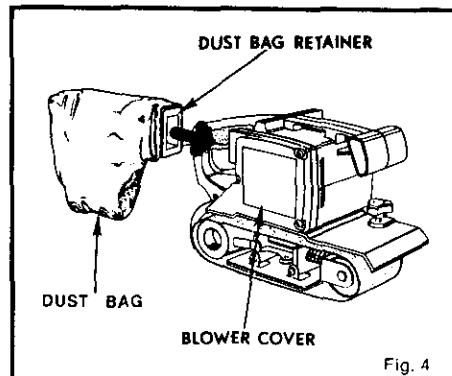

Fig. 4
See Figure 4.
2. Slide dust bag retainer in the direction of the arrow as shown in Figure 4.